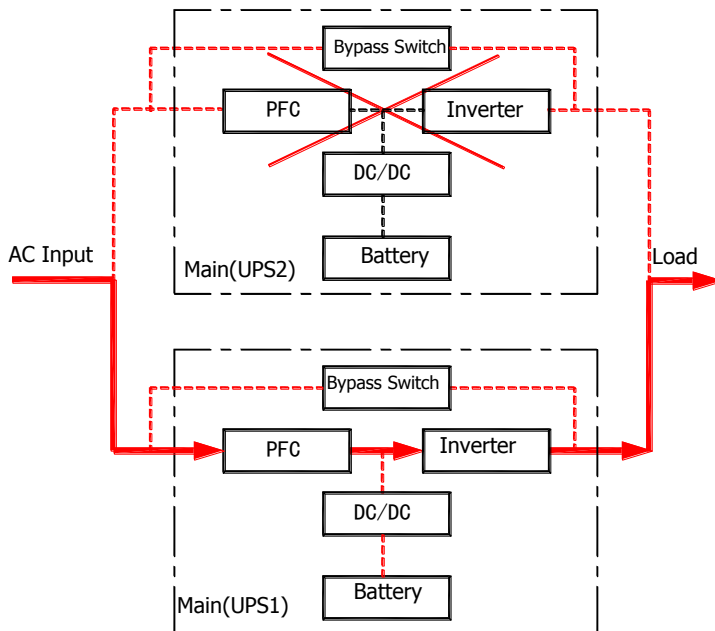

Fig.3.2-5 Working mode of single machine abnormal
4. Working mode of one machine abnormal (solid line is Energy flow of UPS) as shown in Fig.3.2-5. Abnormal machine doesn't have output, so supply power to load only by normal machine.